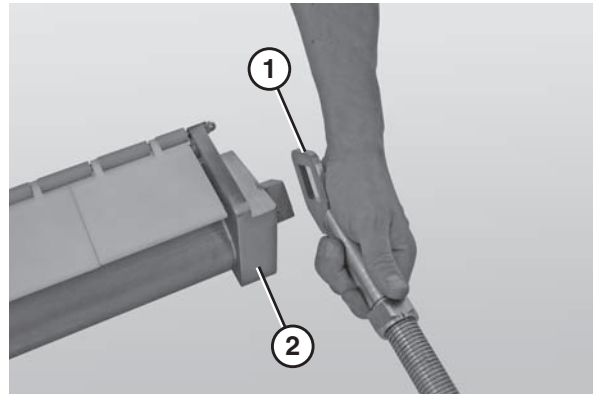

Figure 70
3. Slide the nose bar shafts (**Figure 70, item 1**) off of the nose bar weldment (**Figure 70, item 2**).